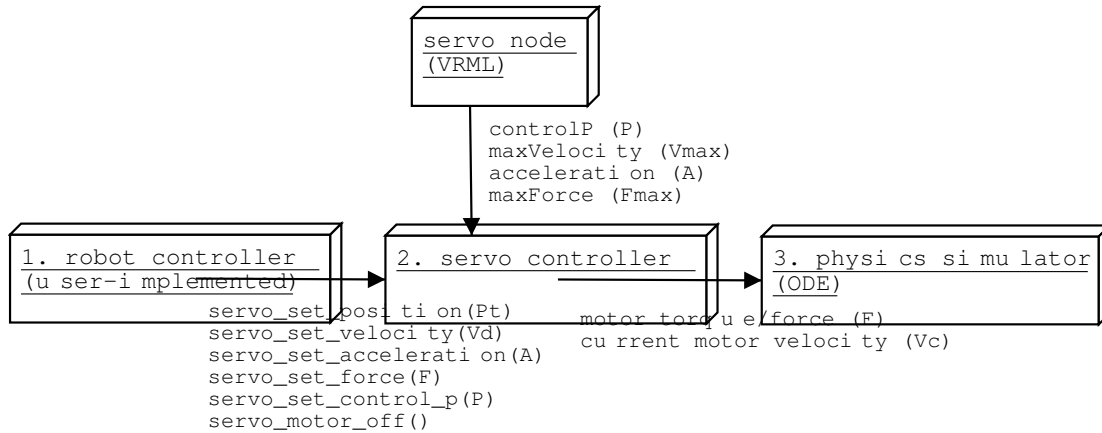

Figure 2.12: Servo control
The servo control is carried out in three steps as depicted in figure 2.12. The first step is achieved by the user-defined controller program (1) that decides which position, velocity, and force must be used. The second step is achieved by Webots's *servo-controller* (2) that computes the current rotational or linear velocity of the servo V_c . Finally, the third step is carried out by the physics simulation (3) that computes the integration of all the forces in presence.
The `maxForce` field specifies the default and maximum motor torque/force F that is sent to the physics simulator, see figure 2.12. The torque/force can also be changed in run-time with `servo_set_force()`. A too small value of `maxForce` may result in a servo unable to move or to maintain a target position because of the weight it has to hold. The value of `maxForce` should always be zero or positive (the default is 10). Note that setting the force to zero is equivalent to calling the function `servo_motor_off()`.